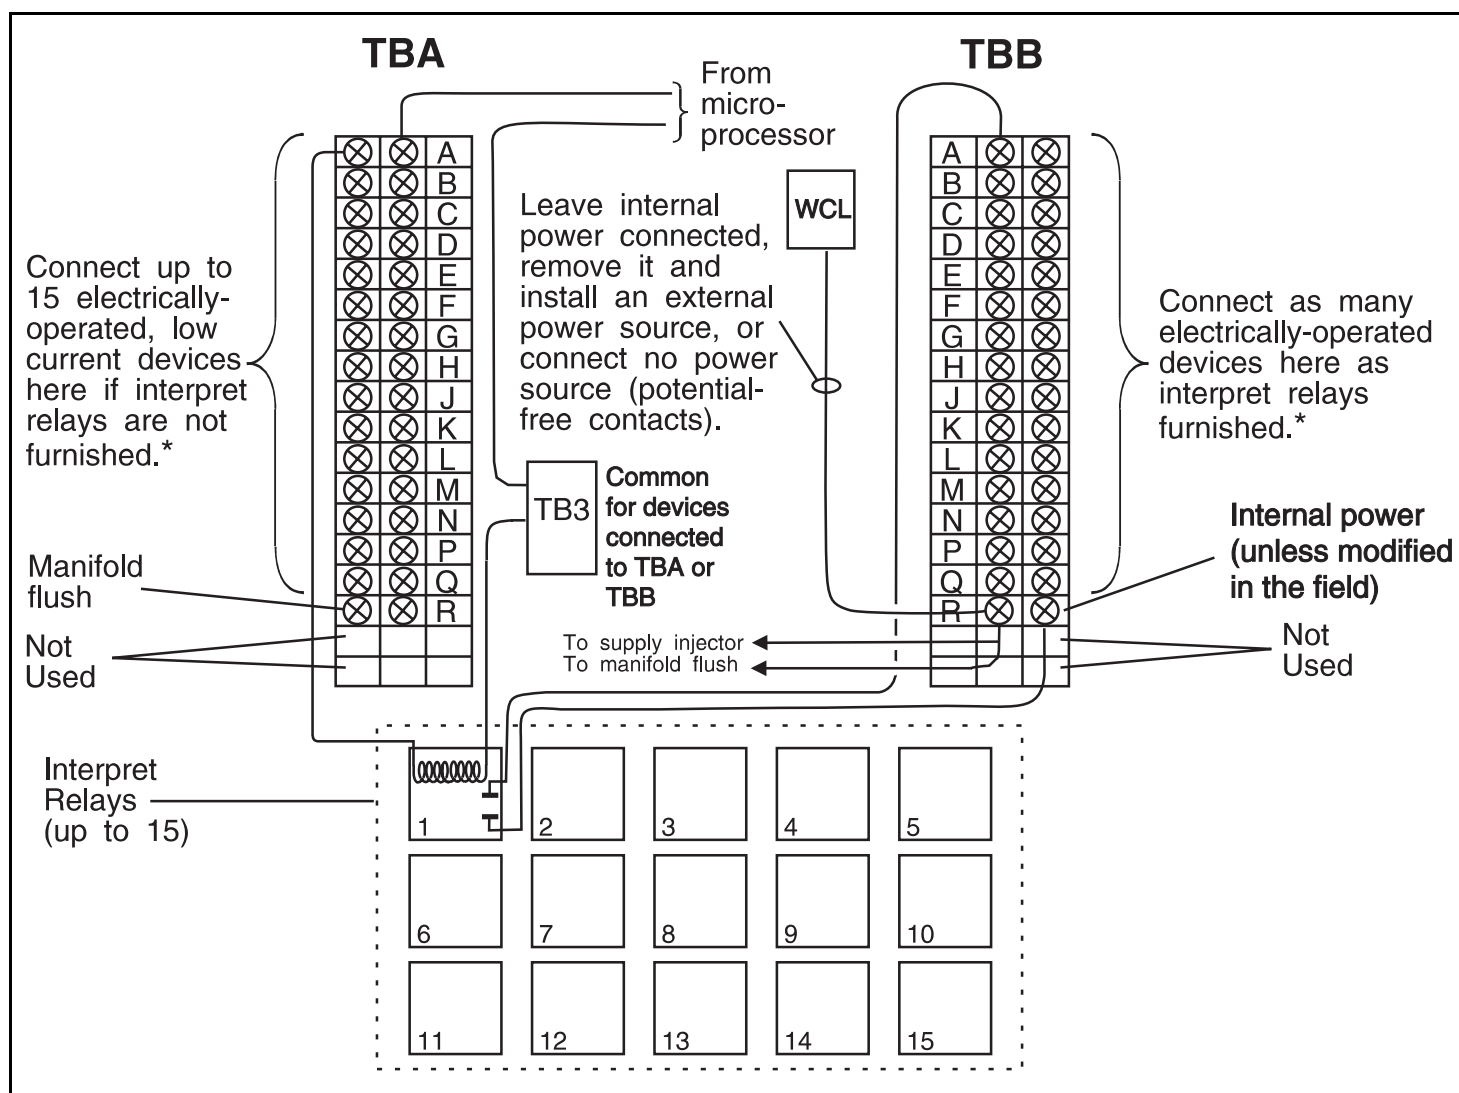

FIGURE 3 (MSSM0262BE)
3. Optional Interpret Relays—Interpret relay contacts have a higher current carrying capacity than inject signals. The interpret relay coils are wired to *TBA* (see FIGURE 3). One set of contacts on each relay is wired to terminal strip *TBB* and connected to an internal power source. This power source may be replaced by an external, *separately fused* source, or merely disconnected, to provide potential-free (“dry”) contacts. Use interpret relays to actuate electrically operated apparatuses (e.g., pumps, valves) or provide potential-free signals for other controllers.
Relays—Acquire all 15 chemical signals and a *manifold flush* signal at *TBA* (see FIGURE 3). *Terminals A through Q* on this terminal strip are *chemicals 1 through 15* respectively and *Terminal R* is the *flush*. *Terminal TB1* provides a multi-pin *common*. The specified voltage is enabled between the appropriate terminal of *TBA* and *common* whenever a chemical injection or flush is called for.
Using Internal Power—When interpret relays (up to 15) are furnished, chemical signals are available at *TBB* in the *interpret relay box*. *Terminals A through Q* are *chemicals 1 through 15* respectively. *Terminal TB1* provides a multi-pin *common*. The specified voltage is enabled between the appropriate terminal of *TBB* and *common* whenever a chemical injection is called for. As shown in FIGURE 3, *terminal R* of *TBB* is used to supply power internally to one contact on each interpret relay.
Using External Power or Potential-Free Contacts—As shown in FIGURE 3, *TBB*, terminal *R*, which receives power via *WCL*, not only supplies power to the interpret relay contacts but also to the pumped chemical inlet manifold flush valve and/or supply injector flush valves, if furnished. To disconnect the internal power source, remove all of the wires from the left side of *terminal R*, but maintain the connections between the removed wires. **Make certain that any external power source connected to terminal *R* is separately fused.**